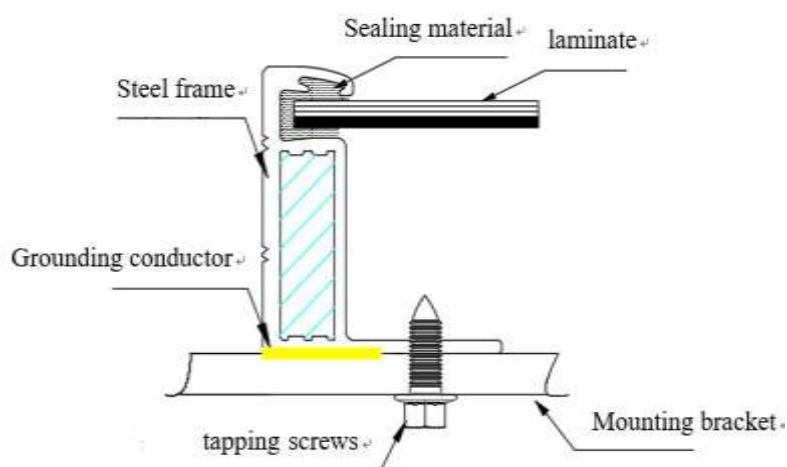

Fig.11.2 ST 4.8 pan head tapping screw grounding
- On a grounding hole with a diameter of $\phi 4$ mm, use a separate grounding wire and related accessories to connect the frame and connect the grounding wire to the ground. M4 x 12mm ground bolts with M4 nuts, star washers and plain washers are recommended for the aluminum frame, M5 pan head screws or ST 4.8 pan head tapping screws are recommended for high-strength alloy steel frames, see fig.11.2, this ensures that the modules are firmly grounded. You can find the corresponding product drawing in module datasheet to know the detailed number, size and position of the grounding holes. The torque applied to ground fixation is 4N· m~8N· m.